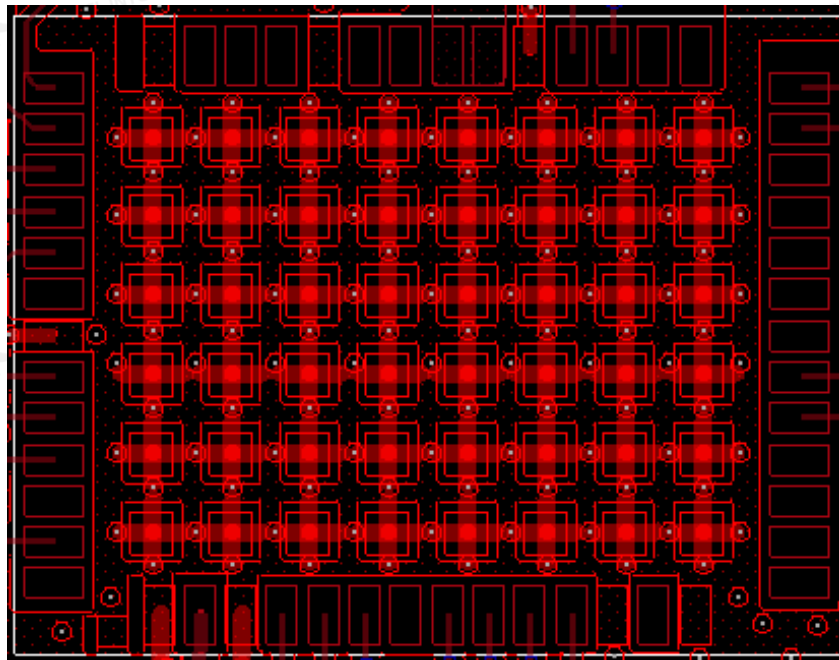

Figure 10 Bottom PCB design of DM711 series modules
- a) A reference ground should be retained to provide a minimum current loop. As shown in Figure 10: The ground of the DM711 series modules need to be well connected to the ground of the PCB. In order to reduce the current return path, a whole piece of ground is generally laid on the bottom of the module, and a cross-pad connection is recommended for better soldering and heat dissipation performance.